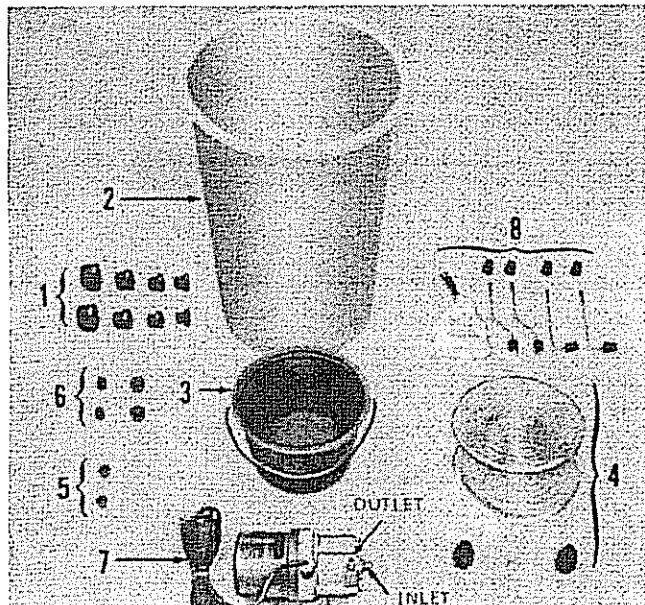

FIGURE 1. PUMP DELIMITING KIT
A. O. Smith Part No. 4930 motorized delimiting pump kit, fig. 1, complete with pump, hoses, fittings, container and instructions, is available from your dealer, distributor or the A. O. Smith Product Service Division.